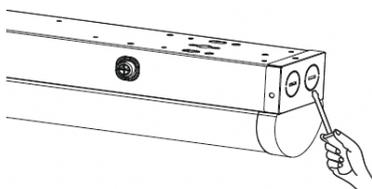

Fig. 23
2. Remove the knockout at the end of the housing (Fig. 23).